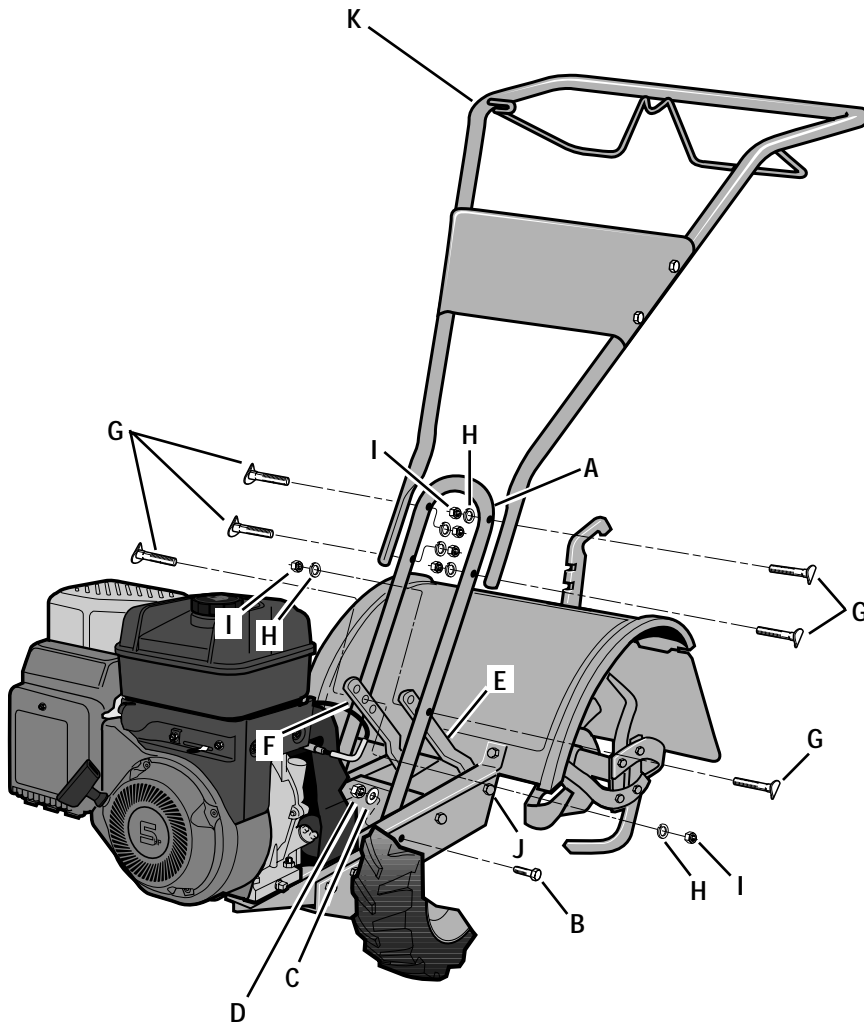

Fig. 2-2: Attach handlebar (5.5HP Model shown).
1	Handlebar Support (see A, Fig. 2-2)
1	Handlebar Assembly (see K, Fig. 2-2)
1. Loosely attach the legs of the handlebar support (A, Fig. 2-2) to the inner sides of the tiller frame using two 3/8"-16 x 3/4" hex hd. screws (B), 3/8" flat washers (C) and 3/8"-16 hex locknuts (D).
2. There are three height adjustment holes in the two handlebar support brackets (E and F, Fig. 2-2). Use a setting that will position the handlebars at approximately waist level when the tines are 3"-4" into the soil. Loosely attach the support brackets to the handlebar support (A) using two 5/16"-18 x 1-1/2" screws (G), 5/16" split lockwashers (H) and 5/16"-18 hex nuts (I). NOTE: If a support bracket will not move, loosen attaching screw (J) and nut.
3. Attach the handlebar assembly (K) to the handlebar support (A) using four 5/16"-18 x 1-1/2" screws (G), 5/16" split lockwashers (H) and 5/16"-18 hex nuts (I). Tighten the four screws securely.